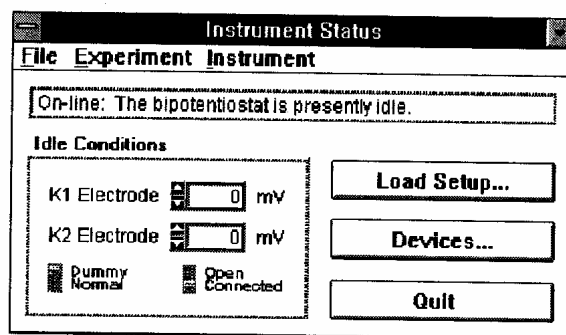

Figure 1: Initial Instrument Status Panel Settings
3. Before making electrical connections between the cell and the potentiostat, assure that the instrument is in DUMMY mode. This is accomplished by adjusting the controls on the INSTRUMENT STATUS panel to match the settings in Figure 1. At this point, the electric connections between the potentiostat and the cell may be made.